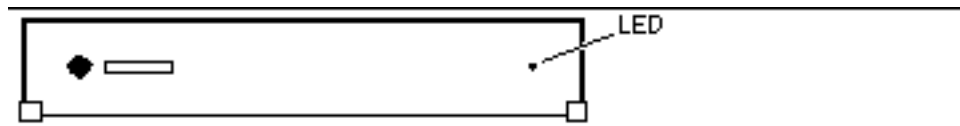

Figure 1-2 Front View of the System
- Figure 1-2 shows the front view of a SPARCstation 10 system.